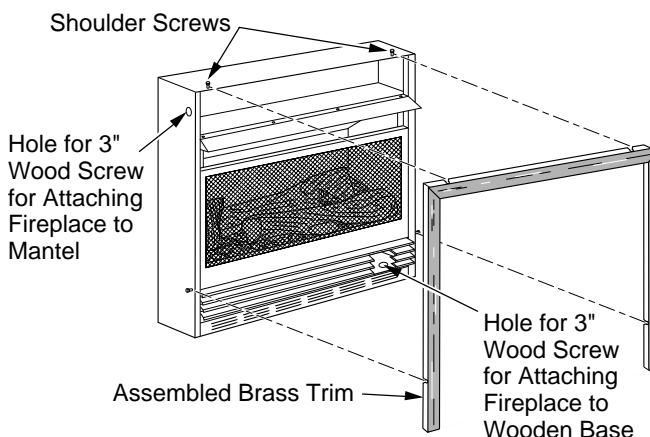

Figure 13 - Attaching Brass Trim to Fireplace
5. Firmly snap brass trim kit on shoulder screws. Shoulder screws are located on fireplace cabinet (see Figure 13).
7. Use two 3" wood screws provided and attach fireplace base to wooden base (see Figure 13, page 10).
14. Place brass trim kit on the shoulder screws located on the side and top of the fireplace. Firmly snap the brass trim over the shoulder screws on fireplace (see Figure 13).
15. Adjust assembly to remove any gaps. Attach remaining two 3" wood screws from hardware pack through openings inside of fireplace sides into the mantel. The openings are located at top behind the area for the louvers (see Figure 13, page 10).